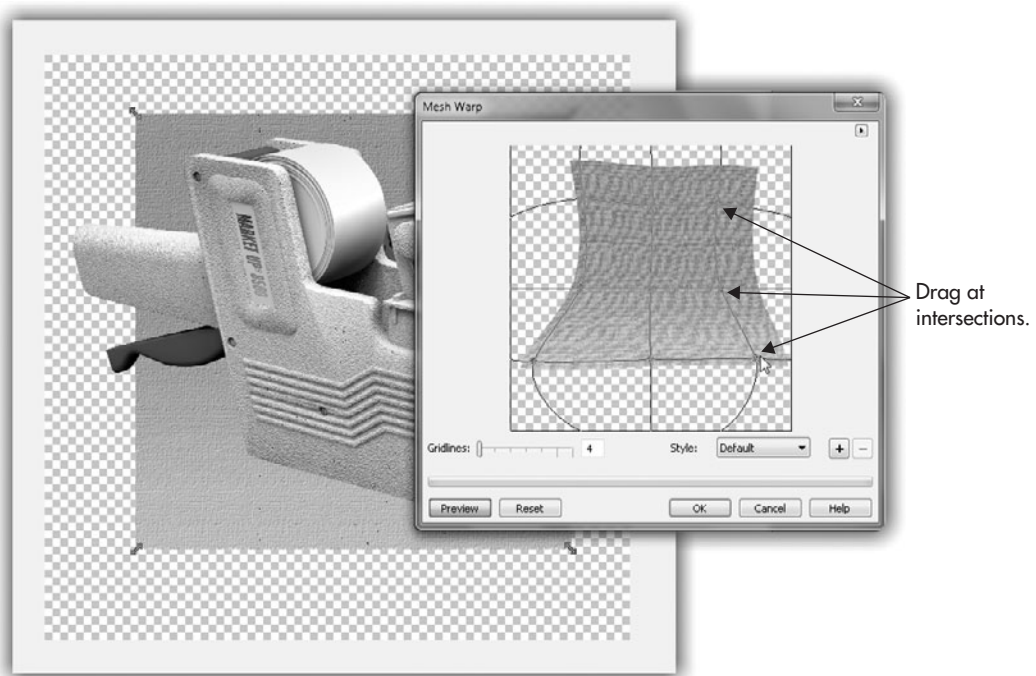

FIGURE 26-3 Use the intersections of Mesh Warp by dragging them to reshape an object.
8. Choose Effects | Distort | Mesh Warp. In the Mesh Warp box, at the default Gridlines frequency of 4, you have nine intersections within the warp lines that you drag to reshape the selected object. The idea is to mold the canvas object, as shown in Figure 26-3, so that its bottom sweeps toward the audience, creating the illusion that the labeling machine is resting on a plane that sweeps up and back off the top of the